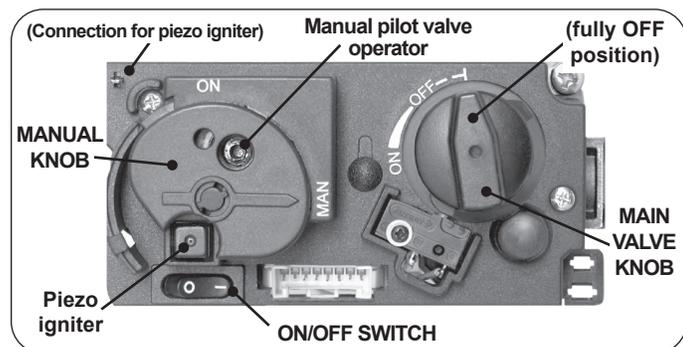
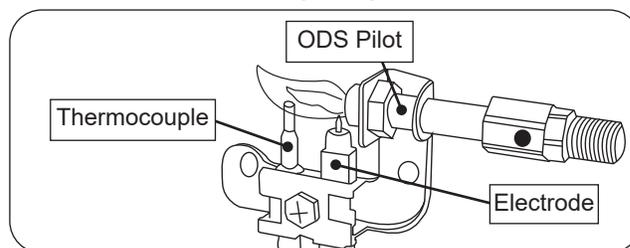

Fig. 26-1 Combination control
Fig. 26-2 ODS Pilot assembly detail
2. Locate the valve on the unit. Turn the control knob clockwise ↻ to **OFF**, the manual knob clockwise ↻ to **MAN**, and place the ON/OFF switch in the **OFF (O)** position (Fig. 26-1).
3. Place the ON/OFF switch in the **ON (I)** position.
4. Locate the pilot assembly toward the center of the unit, near the main burner (see Fig. 26-2).
5. Push the manual pilot valve operator **firmly and fully** in and hold. Hold a long-stem match/ long-necked butane lighter near the thermocouple to light the pilot. Continue to hold the knob in for about one (1) minute after the pilot is lit. Release the manual pilot valve operator. The pilot will remain lit. See Fig. 26-1 and Fig. 26-2. If it goes out, repeat steps 2-5.
1. Ensure the pilot is burning. Turn the manual knob counterclockwise ↺ to **ON**. Turn the control knob counterclockwise ↺ to **ON**. See Fig. 26-1. The valve will open and the burner will light.
To shut down the main burner (pilot will remain lit), turn the control knob clockwise ↻ to the fully OFF position (see Fig. 26-1).
To shut down the burner and pilot (total shutdown), turn the control knob clockwise ↻ to the fully OFF position, and place the ON/OFF switch in the **OFF (O)** position (see Fig. 26-1).